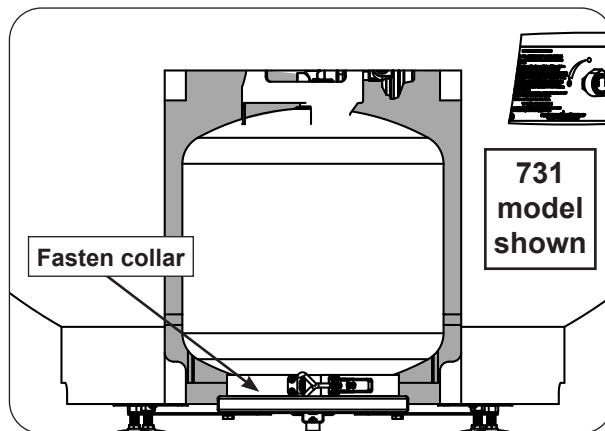
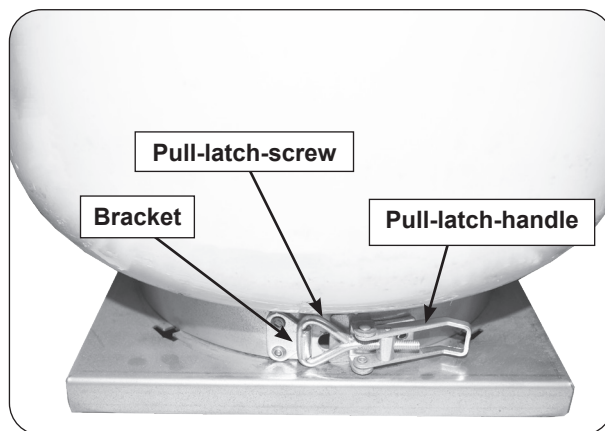

Fig. 28-2 L.P. cylinder placement
Fig. 28-3 Secure L.P. cylinder
3. The propane cylinder (not included) is to be located inside the base of the unit, via the storage door opening. Insert the cylinder into the tank holder tray and secure it. See Fig. 28-2, Fig. 28-3, and the details below: